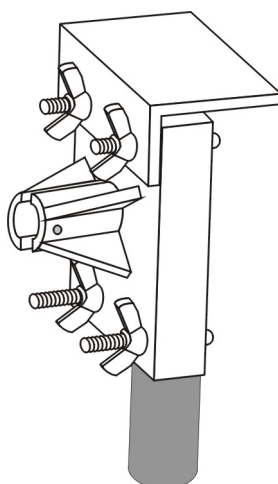

Figure 13: the anemometer base with the antenna shelf
- E. Place a $\frac{1}{4}$ " lock washer and a $\frac{1}{4}$ " wing nut over each end of the U-bolt and tighten the wing nuts (see Figure 13)